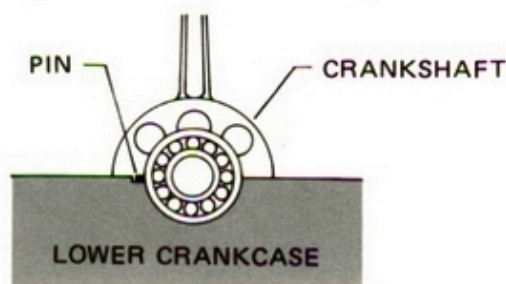

Fig. 7-3-4
- 1) The pins on the crankshaft bearings should be placed in the grooves on the lower crankcase. Fig. 7-3-4.